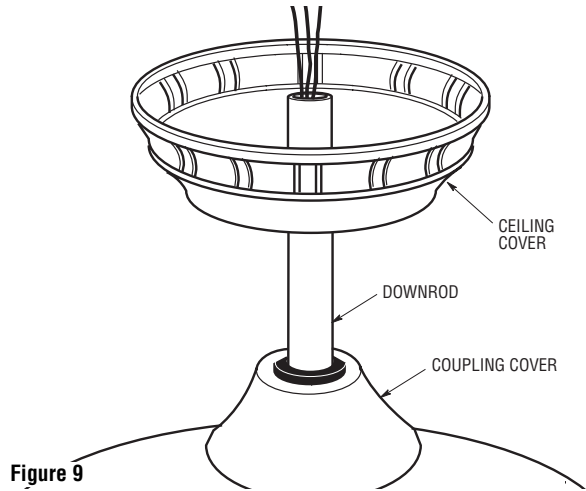

Figure 9
- 14. Make sure the grommet is properly installed in the coupling cover, then slide the coupling cover on the downrod until it rests on the motor housing. Place the ceiling cover over the downrod. Be sure that the ceiling cover and the coupling cover are both oriented correctly (Figure 9).